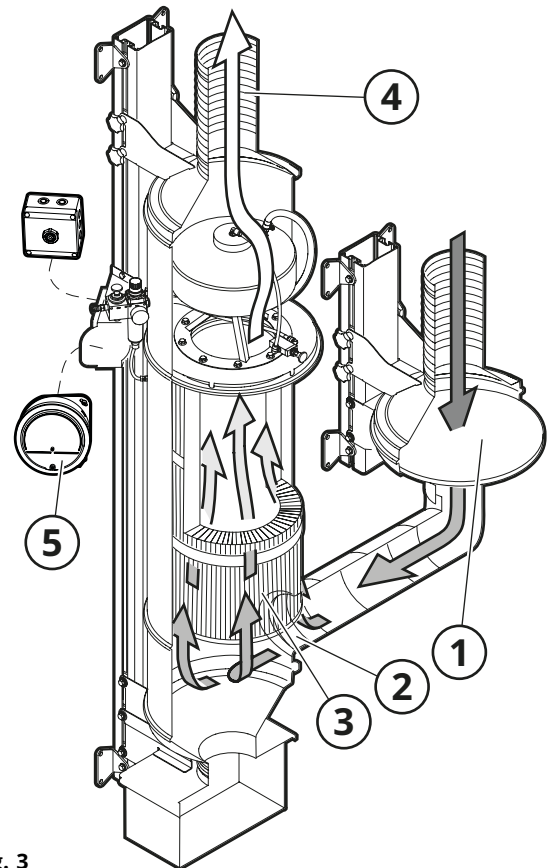

Fig. 3
Dirty air is drawn in via Pre-filter CVM (1, **Fig. 3**), which minimises sparks. The air then passes through the inlet (2) and is purified through the vertically mounted filter (3). The purified air is then extracted via the outlet (4) to the exhaust fan.